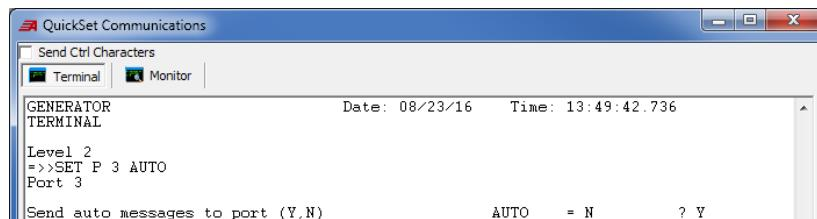

Figure 160 Enable Automessaging
Step 12. (Optional, but recommended) For quick event reporting, enable automessaging on the relay serial port. This allows the relay to send out an event notification immediately when the event occurs. Use any terminal application to change this relay setting, as shown in *Figure 160*. Enable the **Send Automessage** port setting.